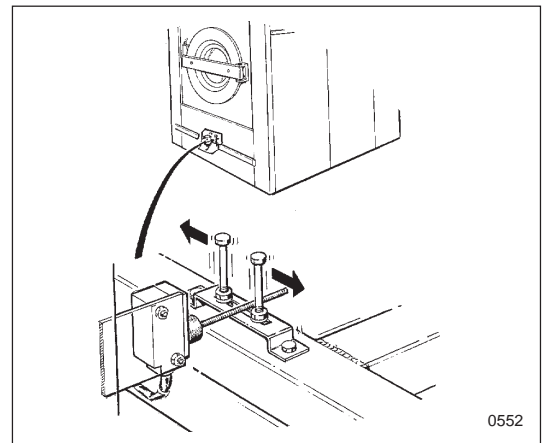

Figure 2.
5. Check the imbalance breaker control arm for straightness or damage and the imbalance breaker for proper adjustment. The control arm, figure 2, should be located 10 mm from the two adjustment screws. When the machine is empty, the arm should touch the screws' anchor plate (for more information, please refer to section "28. Imbalance Breakers").
Fig. 2 Contactors K2 and K3 control the switching of the winding to set the wash speed of the wash motor. With K2 switched on the motor turns in one direction, and with K3 switched on it turns in the other direction. For the relay coil (12) of K2 or K3 to be energised, the following conditions must be met:
- The knob on the programmer (1) may be in one of two positions: